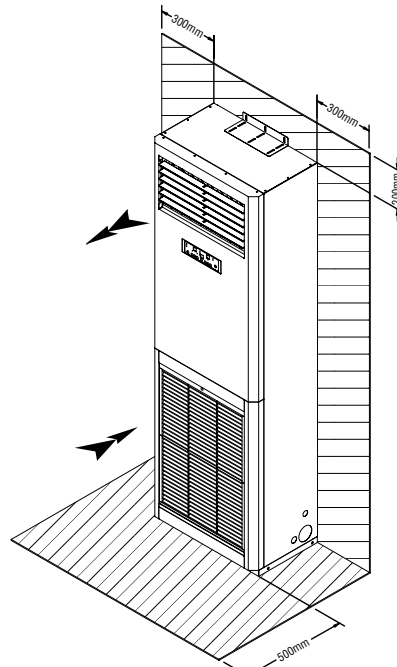

Figure 2
7. Recommended service clearance as shown in (Figure 2).